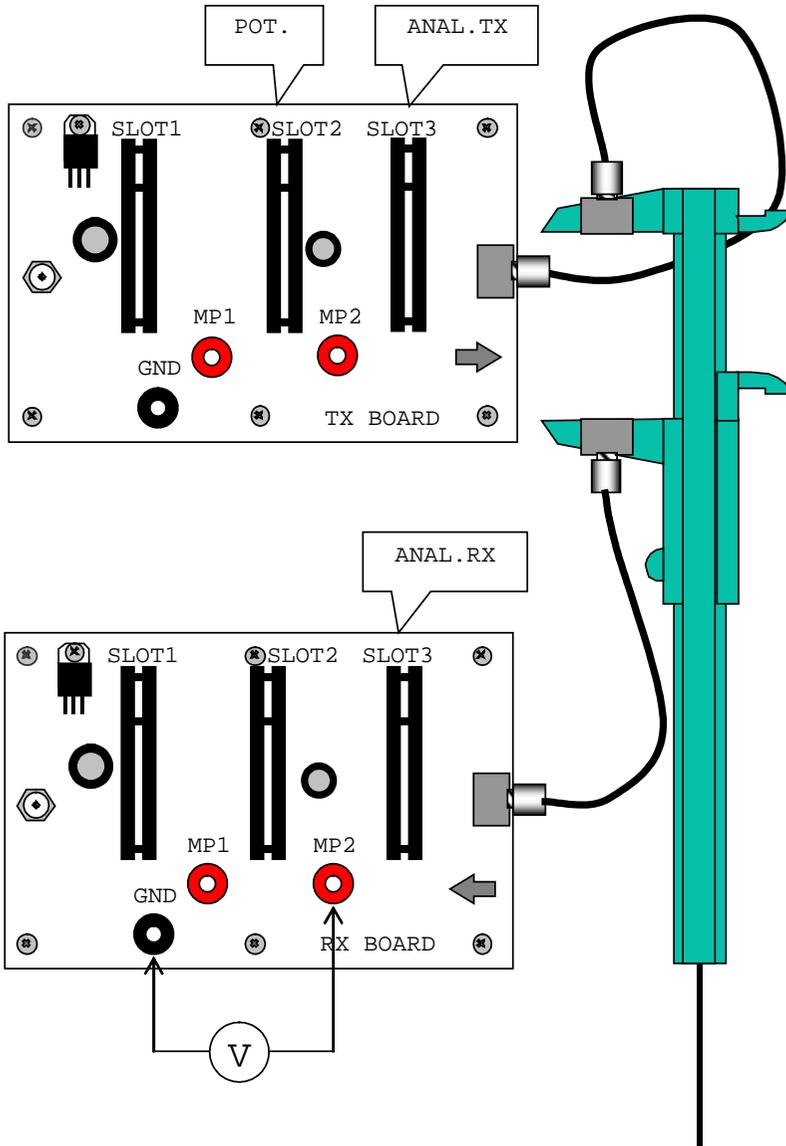

Figure 11: The set-up diagram of the transmission sensor.
1. Insert the analogue transmitter into Slot 3 and the potentiometer into Slot 2 of the main transmitter panel (Figure 11).